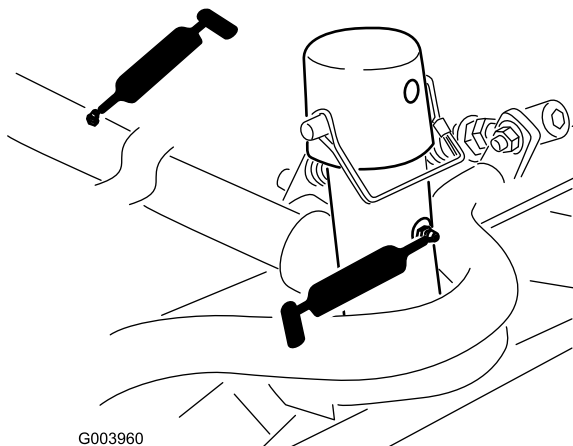

Figure 52
- Cutting unit carrier frame and pivot (2 each) (Figure 52)